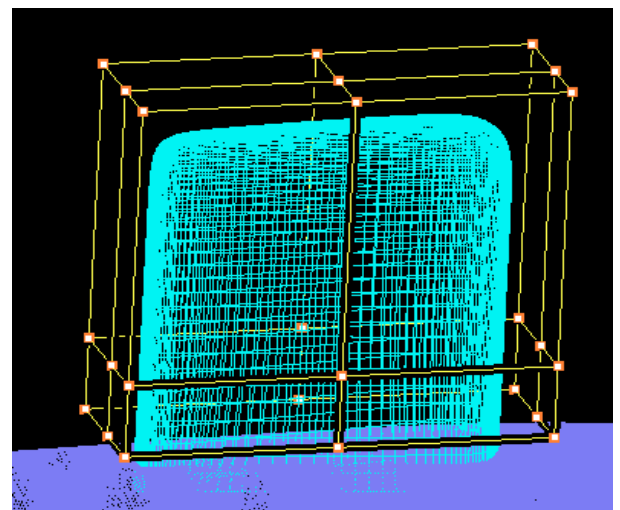

Figure 19
- Empty the group 1 and add corners assigned to sail i.e. surf 0 to it as shown in figure 19. This will be defined as high density group.